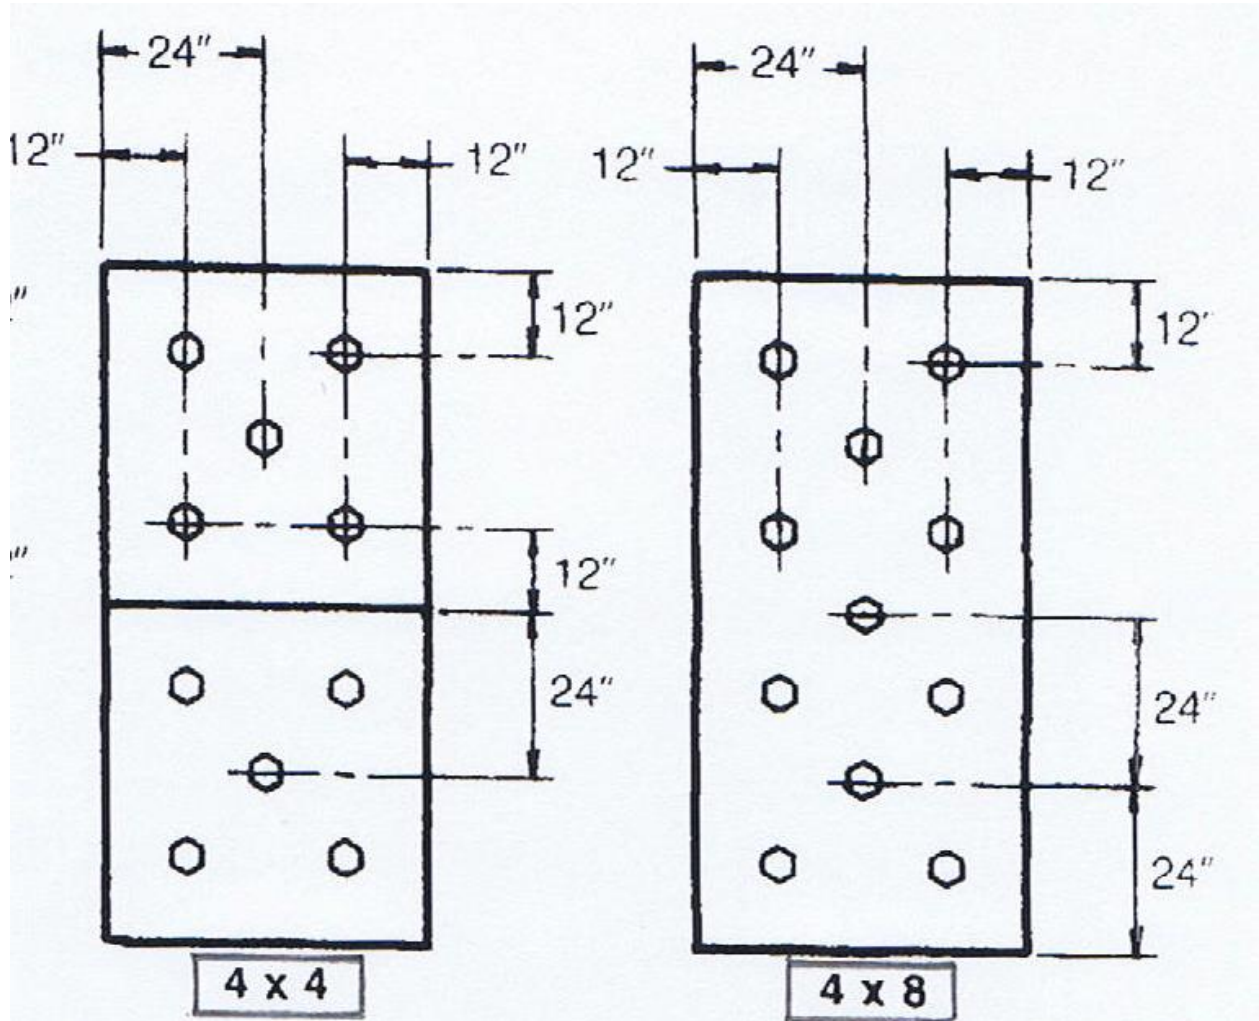

Figure 1: Insulation Fastening Patterns
Insulation: 2" rigid insulation, H-Shield roof insulation by Hunter Panels. Secured to the steel deck with Dekfast No. 14 x 4-1/2" long insulation deck fasteners and Dekfast steel stress insulation plates. The insulation plates are 2-7/8" across the plate and can be hexagonal, square, or circular. Use a minimum of five (5) fasteners per 4x4 ft board or ten (10) fasteners per 4x8 ft board. The fasteners must have a minimum penetration of 5 threads through the bottom of the deck. Refer to Figure 1 for insulation fastening patterns.